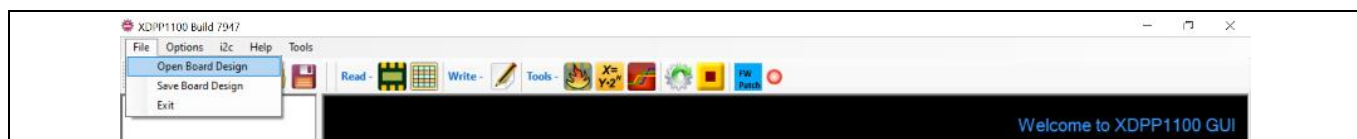

Figure 9 Open design file
- Click **File>Open Board Design (Figure 9)**